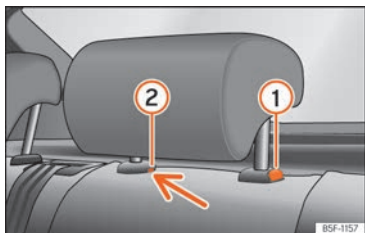

Fig. 106 Rear headrest: removal.
- Press button »» Fig. 106 ①, while simultaneously pressing on the security hole ② with a flat screwdriver a maximum of 5 mm wide, and remove the headrest.